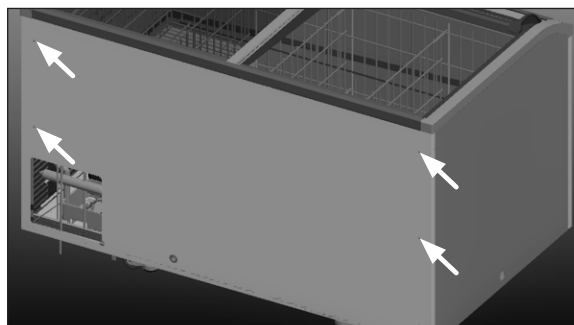

Fig. 7 Frame screw locations at rear of case
4. Install the screws supplied at the rear of the case with the equipment in the frame selected part of the diagram (Fig. 7). The bolt specification is m6 x 16. The screws don't need to be tightened for the time being.